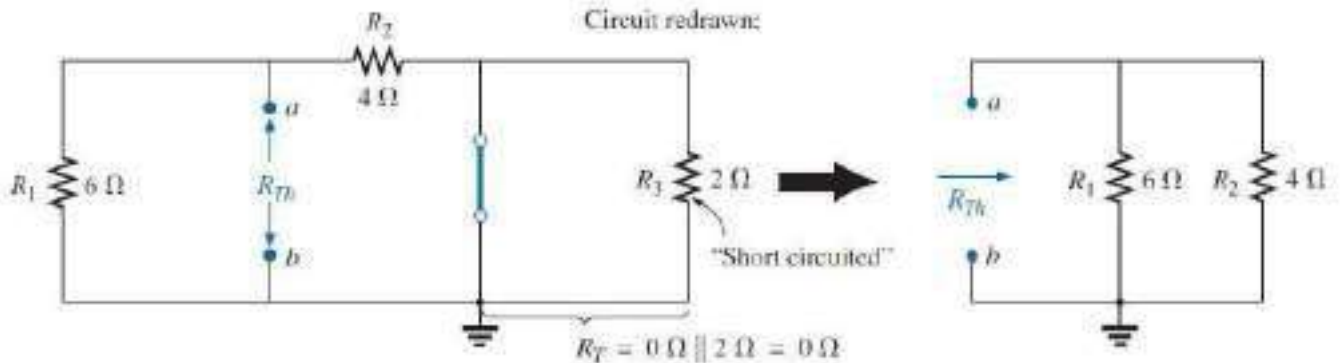

FIG. 9.39
Step 3: See Fig. 9.39. Steps 1 and 2 are relatively easy to apply, but now we must be careful to “hold” onto the terminals a and b as the Thévenin resistance and voltage are determined. In Fig. 9.39, all the remaining elements turn out to be in parallel, and the network can be redrawn as shown. We have